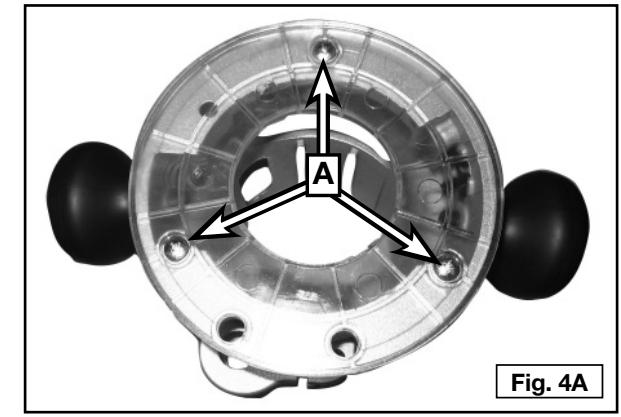
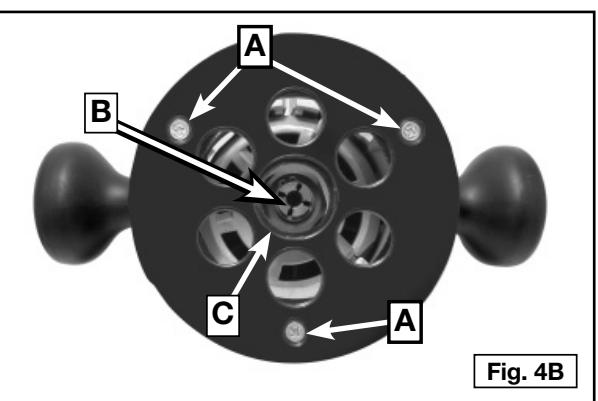

Fig. 4A
Fig. 4B
1. Remove the standard large-hole sub-base by removing three screws (A) Fig. 4A. Replace with accessory sub-base (Fig. 4B), but do not fully tighten screws (A).
2. Open the clamp and adjust the power unit so that the collet nut (A) engages the center hole in the sub-base (C). Allow the sub-base to center itself on the collet nut. Close the clamp.